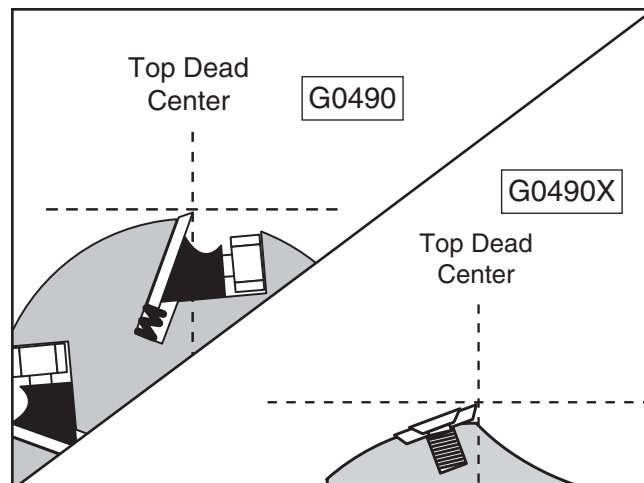

Figure 58. Knife or insert at top dead center.
6. Use motor pulley to rotate cutterhead until one of the knives or inserts is at top dead center (its highest point during rotation), as illustrated in **Figures 58–59**.